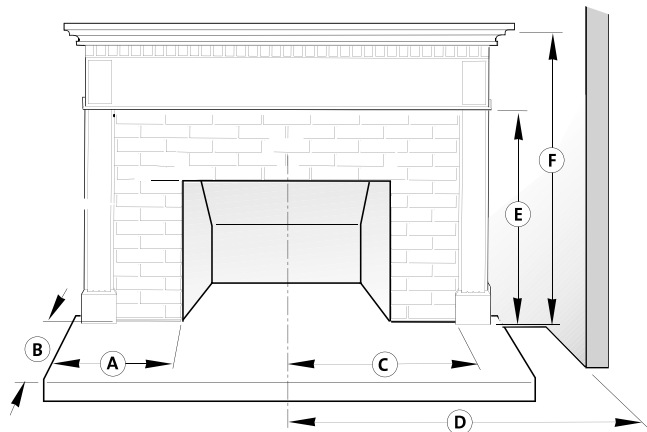

Figure 124. Mantel and ceiling dimensions
- F: Mantel Clearance from hearth: See fig. 124